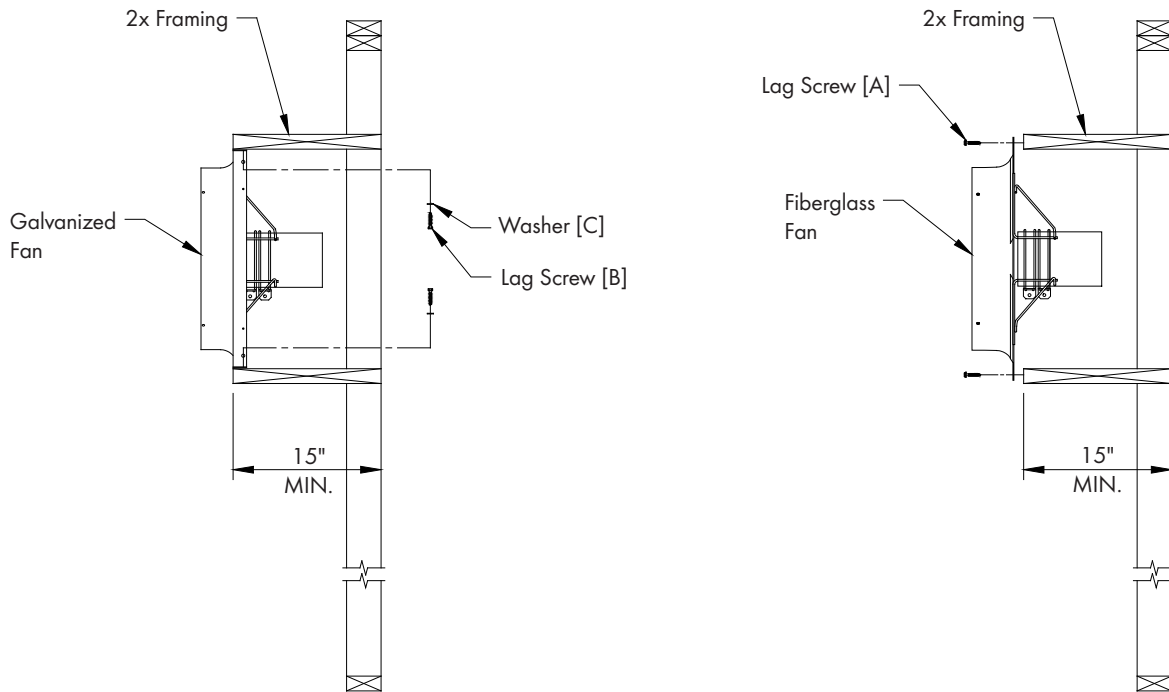

Figure 3
Insert fan into framed opening from outside and fasten in place using (8) Lag Screws [A] for Fiberglass Fans or (8) Lag Screws [B] and Washers [C] for Galvanized Fans. Flash and caulk around opening. *See Figure 3.*